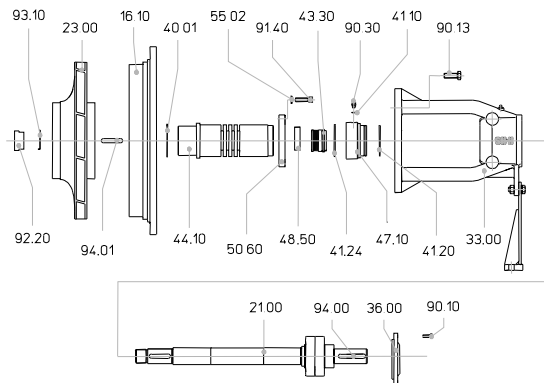
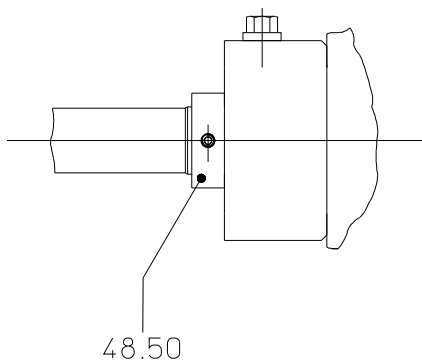

fig. 2
fig. 3
- Detach the shaft nut 92.20 and take off the safety tab washer 93.10. (fig. 2)
- Dismount the impeller 23.00 and the key 94.01.
- Mark the position of the locating ring 48.50 on the shaft. (fig. 3)